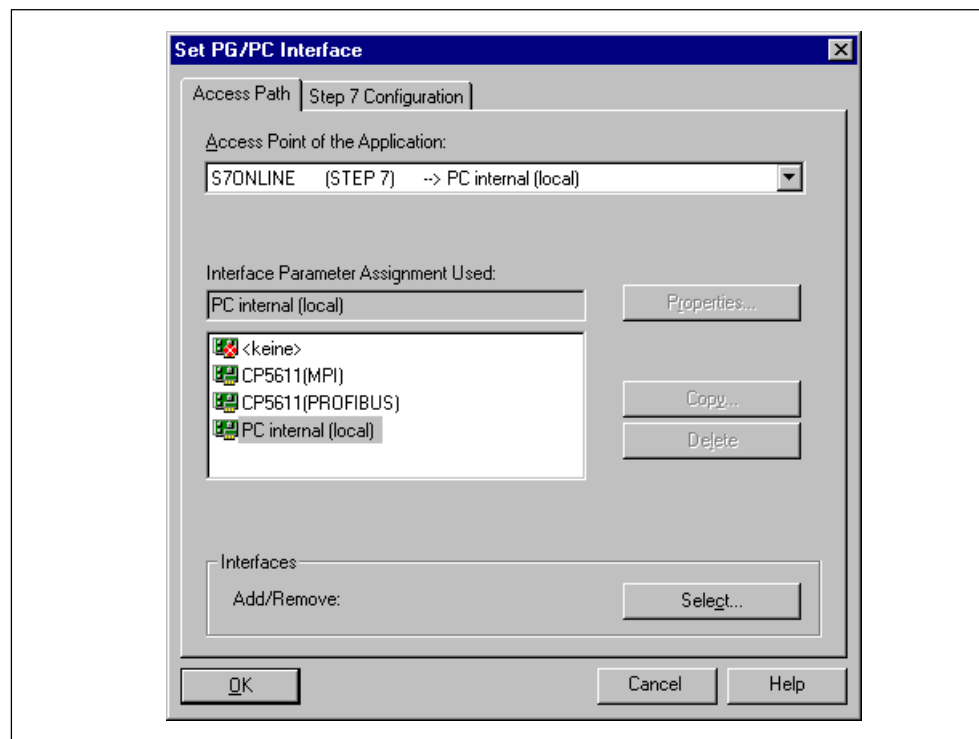

Figure 2-14 Setting the PG/PC Interface for PC Internal (Local)
- At “Access point of application”, select **S7ONLINE (STEP 7)** (Figure 2-14).